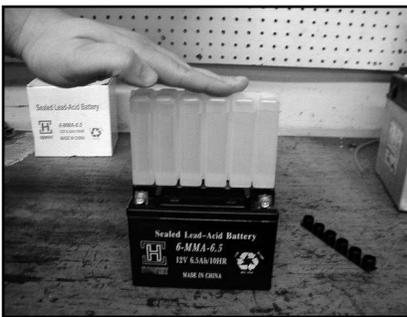

FIGURE 22
- Push the container down strongly enough to break the silver seals. **(see figure 22)**